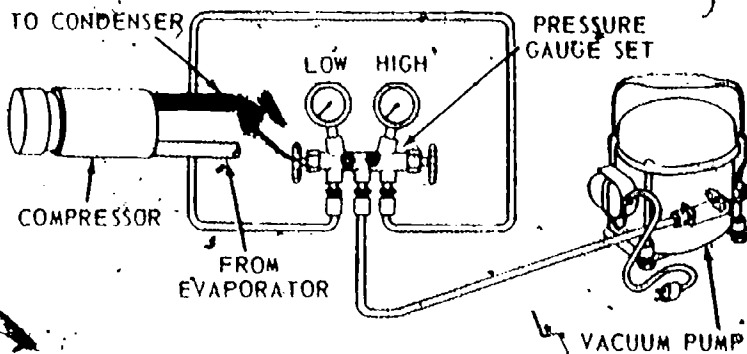

Fig 81 - Evacuating System
1. Connect vacuum pump to gauge manifold (Fig. 81). Compressor OFF during evacuation.